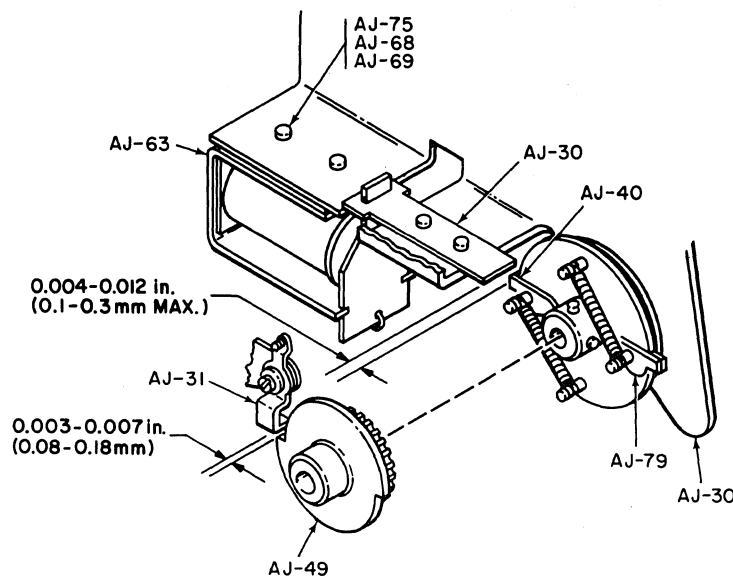
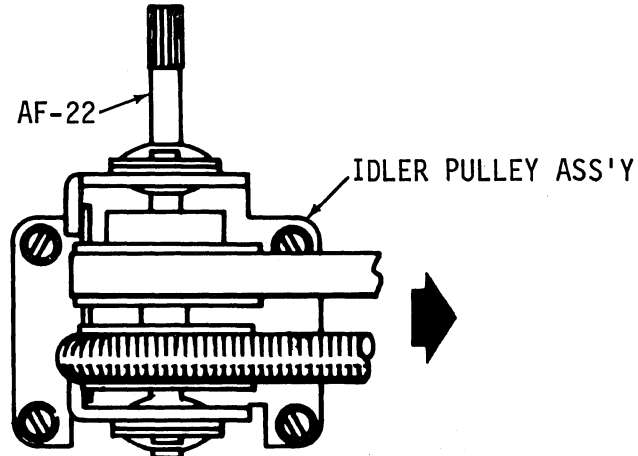

Figure 5-11. TWO ADJUSTMENTS, PAPER FEED MECHANISM (AJ)
Figure 5-12. LOCATING IDLER PULLEY ASSEMBLY
To adjust proper distance of armature slide (part of chassis, AJ-30) with respect to holding the raised tab on paper feed clutch, inner cam (AJ-40) (prior to line feed release), perform the following steps: (Refer to Fig. 5-11 below and mechanical drawing (Fig. AJ, Section 8).
As the raised tab on inner cam (AJ-40) and clutch release pawl (AJ-79) strike the armature slide (completing a line feed), it is at this point that the back stopper pawl (AJ-31) (See Fig. 5-12) drops off the notched end of the cam (AJ-49) (Fig. 5-11) and must be adjusted in this position (preventing counter rotation or downward movement of paper).
1. Loosen allen screws (AJ-62) on stop cam (AJ-49) and maintain a gap of 0.003-0.007-in. max (0.08-0.18 mm) between back stopper and notch on cam (See Fig. 5-12). Tighten allen screws on stop cam when gap is attained.
- d. Move idler pulley assembly (AF-21) so that unit is located to the extreme right position of mounting holes. Unit must be parallel to center line of printer (Refer to Fig. 5-12).